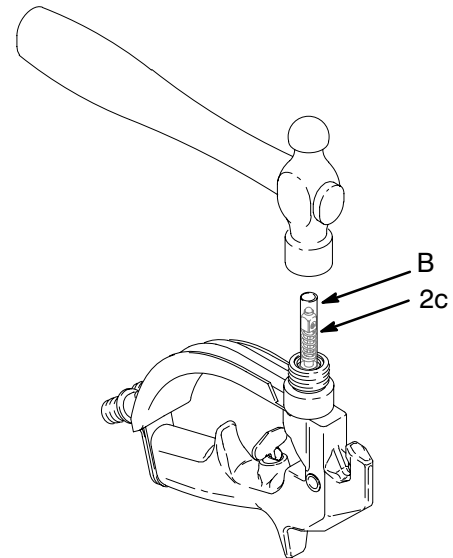

Fig. 8
7. Slide the rear of the needle (2c\*) into the front of the gun. Slide the tool (B), provided with the repair kit, into the gun, around the needle. Lightly tap the tool with a hammer or lightly press the tool against a flat surface to seat the needle. See Fig. 8. Remove the tool.